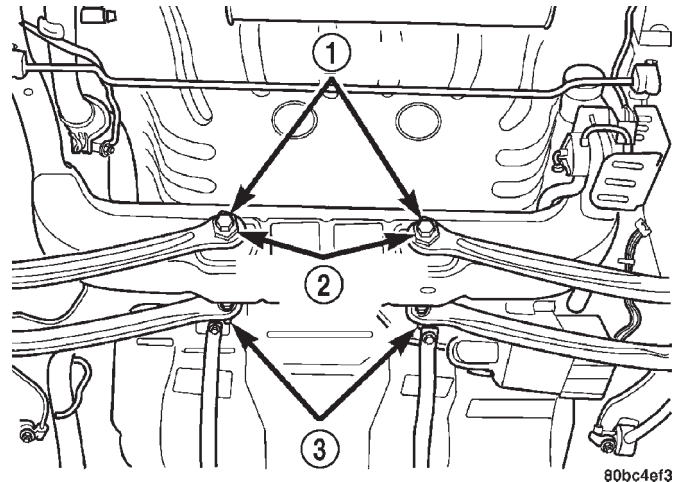

Fig. 4 Adjustment Cams
(1) Loosen the nuts on the left and right rear lateral link attaching bolts at the rear crossmember as necessary to allow rotation of the rear toe adjustment cams (Fig. 4).
(2) Rotate each toe adjustment cam until the preferred rear toe specification is obtained (Fig. 4). Refer to WHEEL ALIGNMENT SPECIFICATIONS in this section of this service manual group.
(3) While holding the toe adjustment cams from turning, tighten the attaching bolt nuts. This will securely hold the adjustment cams in position. Tighten the attaching bolt nuts to a torque of 88 N·m (65 ft. lbs.).
(4) Proceed to FRONT TOE to set the front toe.